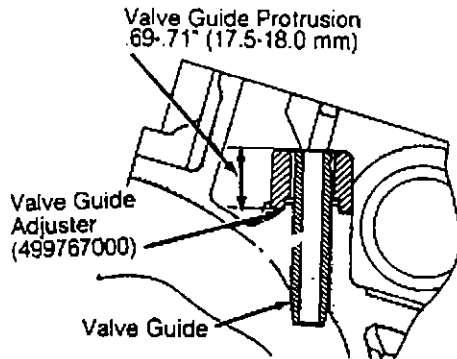

Fig. 8: Positioning Valve Guide Adjuster On Cylinder Head
3) Invert cylinder head and place Valve Guide Adjuster (499767000) in position shown. See Fig. 8. Coat NEW valve guide with engine oil. Insert Valve Guide Remover (499767200) into NEW valve guide. Press in until valve guide upper end is flush with upper surface of valve guide adjuster.